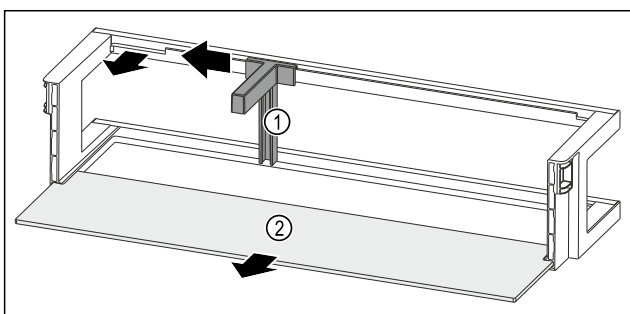

Fig. 120 Door rack with bottle holder and shelf
- ▶ Slide the bottle holder Fig. 120 (1) to the side as far as the recess.
- ▶ Remove the bottle holder Fig. 120 (1).
- ▶ Remove the shelf Fig. 120 (2).